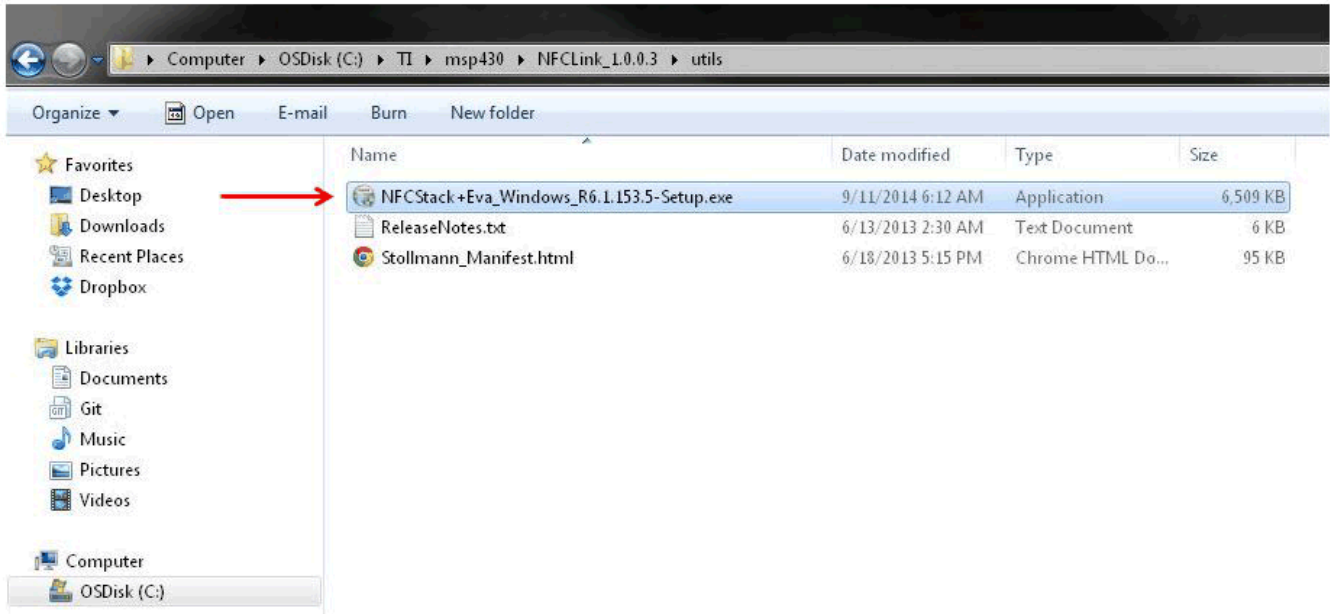

Figure 19.
1. Navigate to NFCLink directory named 'utils', double click the executable highlighted in Figure 19.